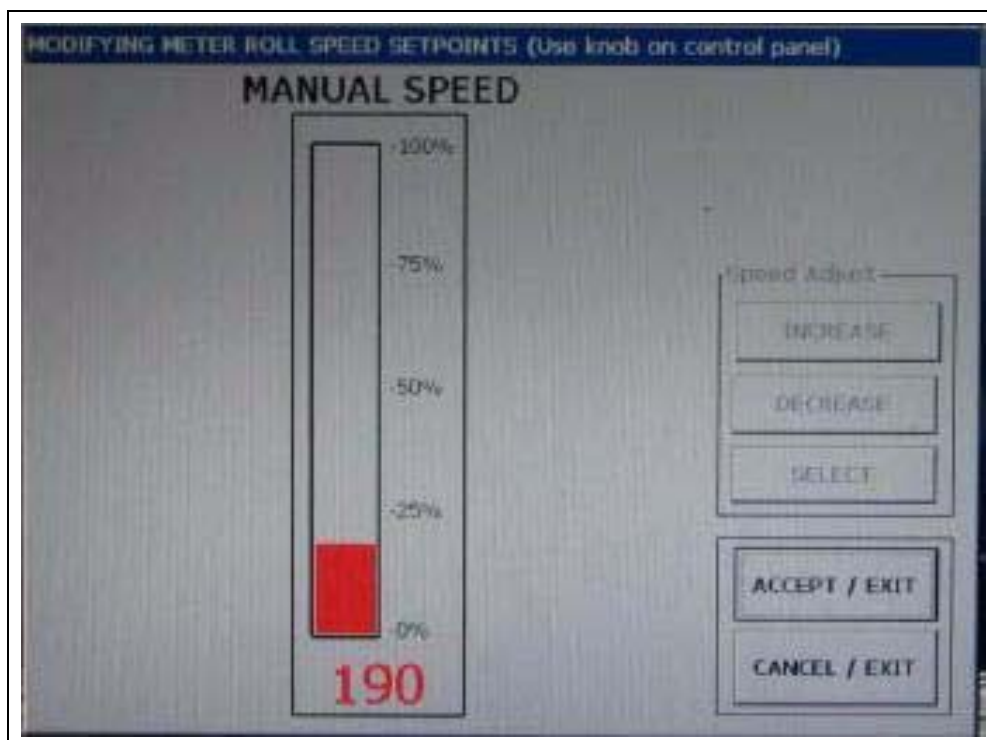

Figure 8A
11. Look in the reference setting tables on Pages 49-53 and select the appropriate table for the dryer and grain moisture levels. Turn the Unload Auger switch to MANUAL position. The unload auger and metering system will start discharging grain from the dryer. Push the Metering Roll Speed switch and turn the knob to adjust the speed to that suggested in the setting tables. (**NOTE:** *Make sure to press the "Accept/Exit" button on the Metering Roll screen when changing metering roll speed to lock in the new speed.*) (See Figure 8A on Page 44.)